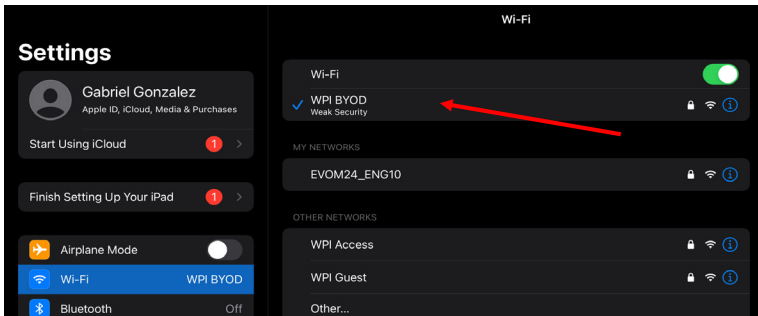
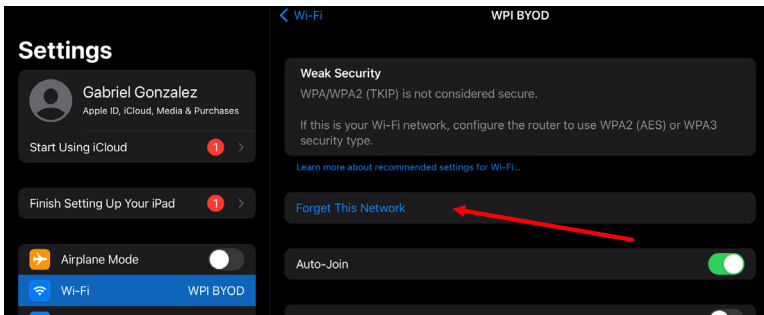

Fig. 67—Locate the WPI BYOD network.
Fig. 68—Click *Forget This Network*.
3. Navigate on the iPad to *Settings* and choose *Wi-Fi*. If you see the WPI BYOD network, click *Forget WPI BYOD Network* to delete it. See Fig. 67, and Fig. 68.